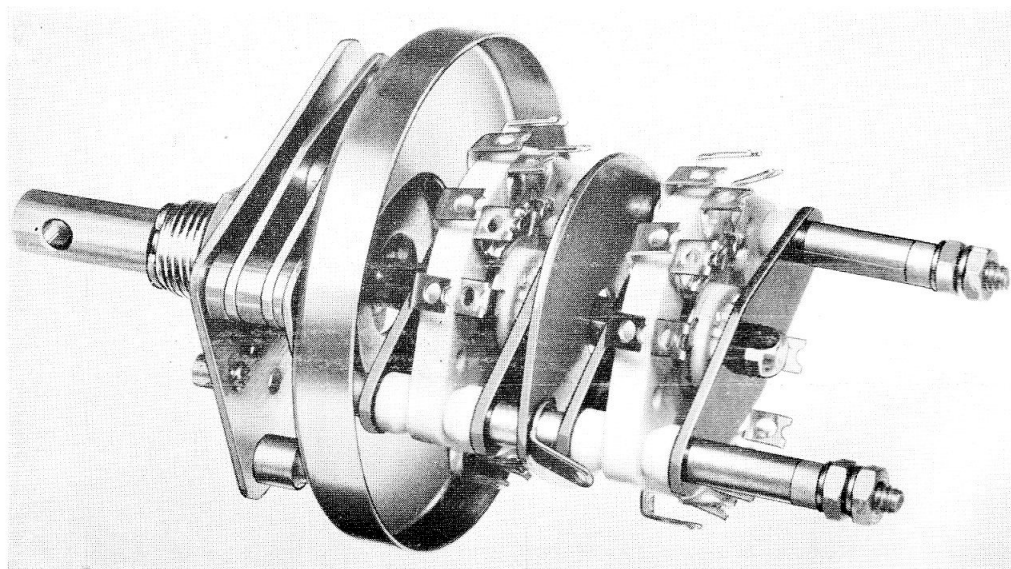

Fig. 2. Switch mechanism (cover removed)
2. The index mechanism consists of a roller held firmly against an indexing sprocket by means of a heavy spring. Contact clips, which are mounted on ceramic insulation discs, are manufactured from silver alloy, and the rotor blades are made from hard brass heavily silver plated (*fig. 2*). Contact resistance is less than 3 milliohms.